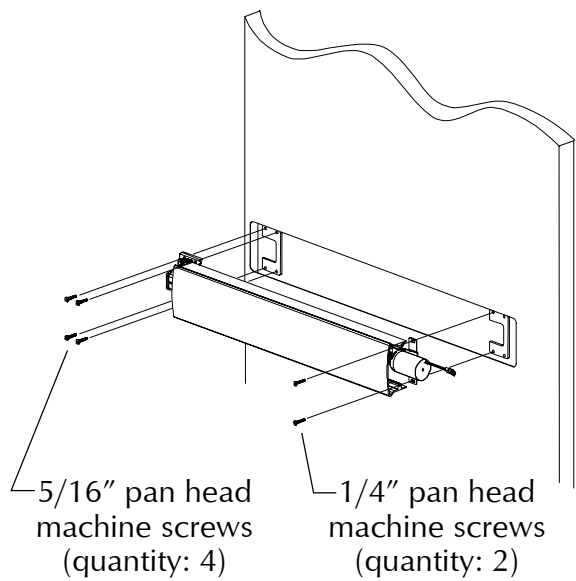

Figure 5-1
- 5.1. Mount device on door using supplied mounting screws (see Figure 5-1).